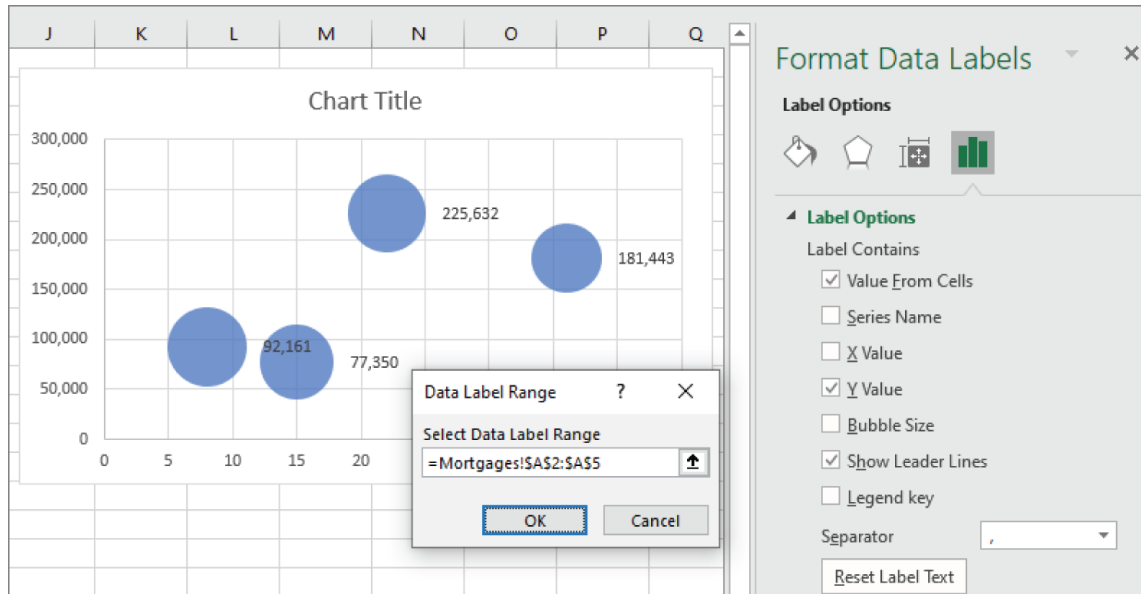

Figure 7.37: Add branch names to the data labels.
5. Under Label Options, choose the Label Options section and check the Value From Cells check box. Figure 7.37 shows the Data Label Range dialog that's displayed. Select the range containing the branch names and click OK.